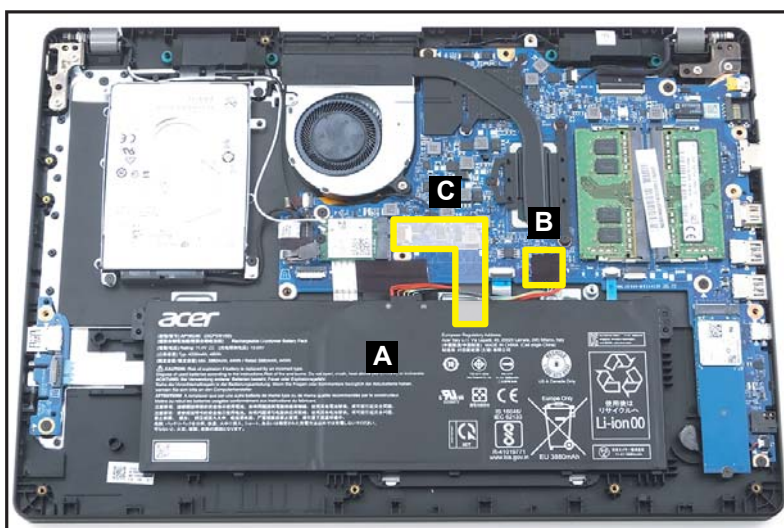

Figure 1-6. Battery Pack Removal
1. Find the battery pack (A) in the system (Figure 1-6).
2. Detach the tape (B) securing the battery cable to the mainboard connector (Figure 1-6).
3. Detach the transparent mylar (C) securing the fan and battery cables (Figure 1-6).